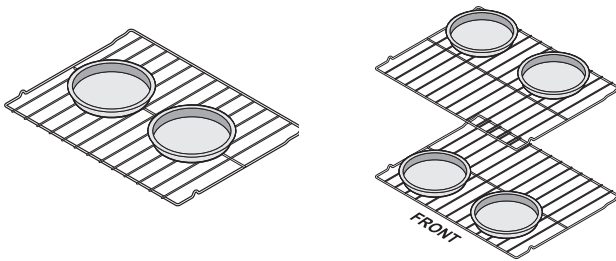

Figure 8: Pan spacing suggestions
- For best results when baking cakes using two oven racks, place racks in positions 2 and 4. (Figure 8).